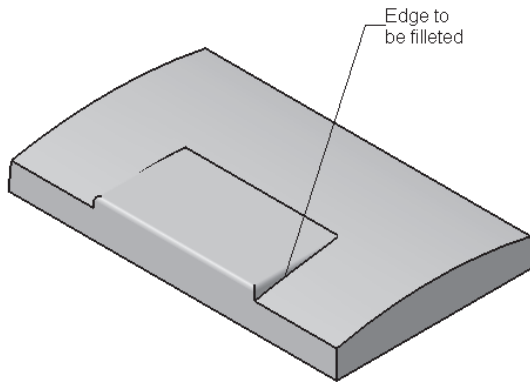

Figure 6-96 Edge to be filleted
5. Select the edge shown in Figure 6-96 and set the value of the **Radius** spinner to **1**.